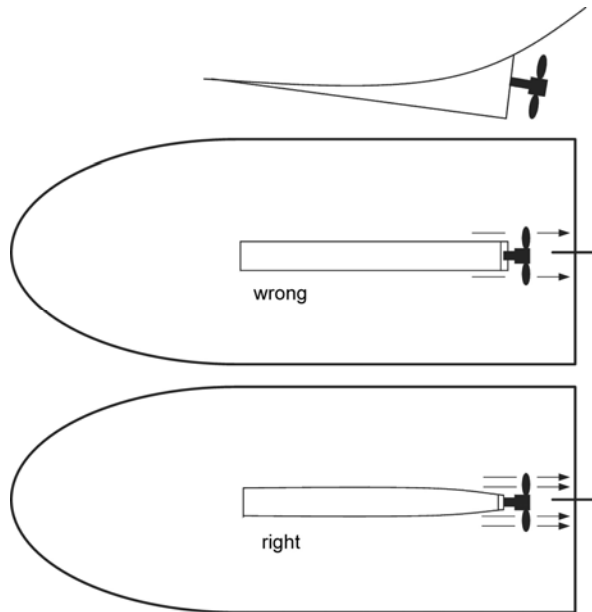

Figure 5: Propeller system
- Inflow of the water from the propeller. For example, a propeller with a 2.4 kW drive moves about 280 liter water per second. The water inflow should be disrupted at a minimum and the water should flow horizontally through the propeller. If the boat has a keel from which the propeller protrudes, then the keel must be narrowed above and below the propeller shaft to get the inflow to the propeller as smooth as possible. See Figure 5. The view of the keel shows the difference between a straight keel and a keel that is narrowed.